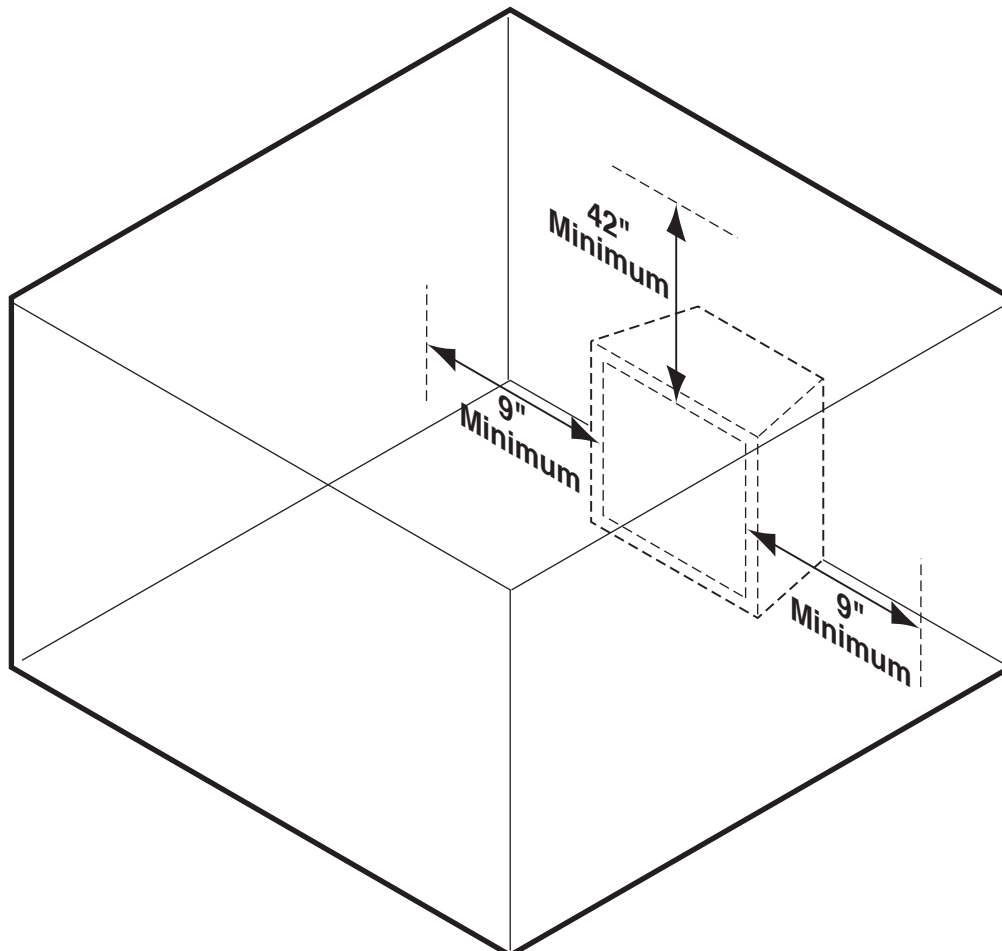

Figure 4 - Clearance and Height Requirements
Ensure that minimum clearances shown in Figures 4 through 8 are maintained. Left and right clearances are determined when facing the front of the firebox.
1. **Sidewall clearances:** The clearance from the inside of the appliance to any combustible wall should not be less than 9". See Figure 4.
2. **Ceiling clearance:** The ceiling must be at least 42" from the top of the firebox opening. See Figure 4.